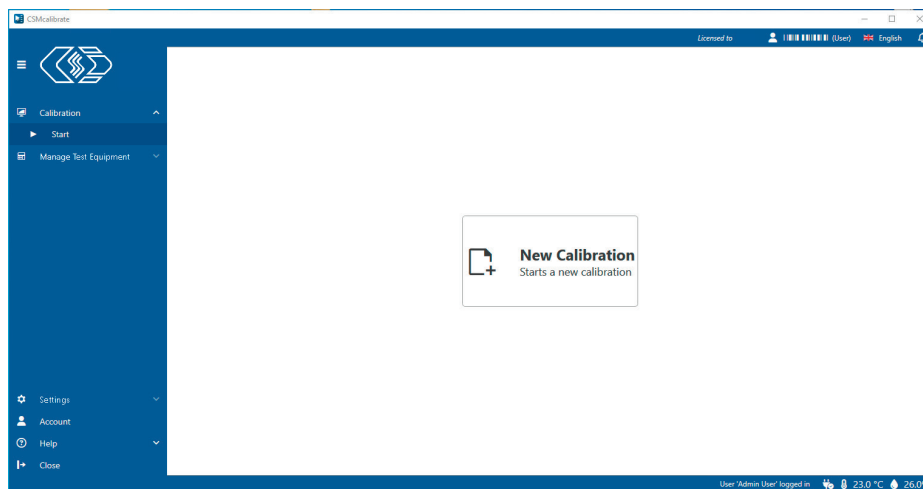

Fig. 2-8: CSMcalibrate start screen
- ⇒ The CSMcalibrate start screen (Fig. 2-8) opens again.